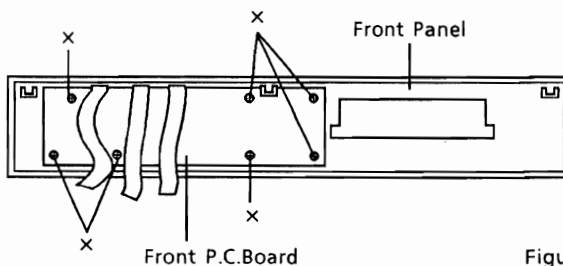

Figure 2
- (1) After removal of the Front Panel, remove seven screws marked "x" as shown in Figure 2.
- (2) Disconnect all connectors from the Front P.C.Board.